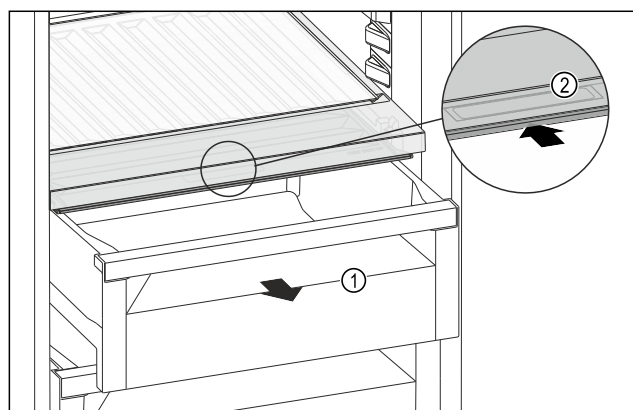

Fig. 198
- Pull out the drawer Fig. 198 (1).
- Grasp the recessed grip Fig. 198 (2) on the compartment lid and push the compartment lid backwards at the same time.